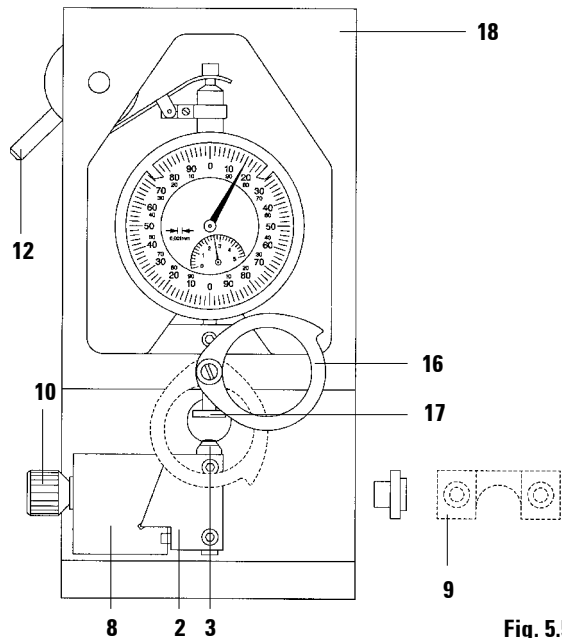

Fig. 5.5
- Carry out steps 1 - 4 as described on page 22 (**Fig. 5.5**) for the pre-miller.